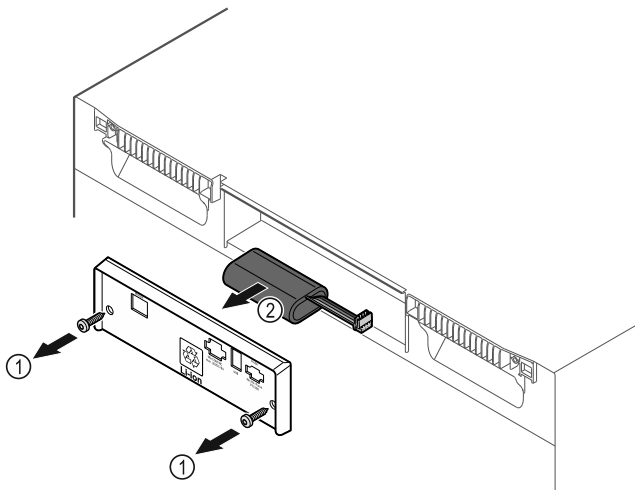

Fig. 201
- ▶ Unscrew screws and remove cover from the back of the appliance Fig. 201 (1).
- ▶ Disconnect and remove battery Fig. 201 (2).